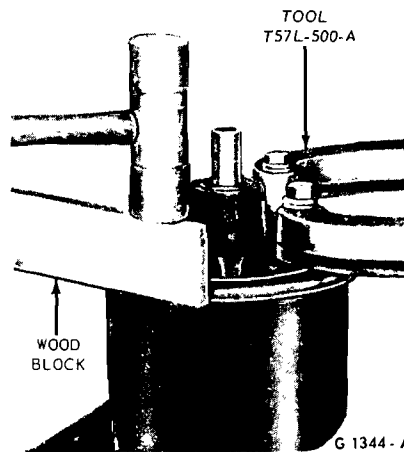

FIG. 19—Removing Pump Reservoir
3. Invert the pump so the pulley side is facing up and remove the reservoir by tapping around the flange with a wood block (Fig. 19).